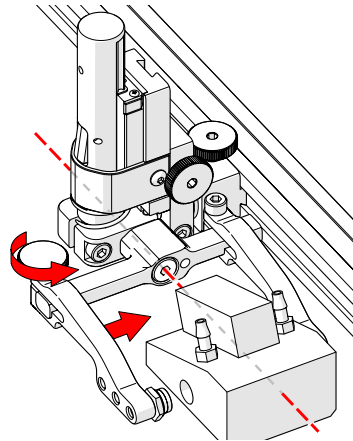

Fig. 167 - Adjust outer arm
5. Loosen the probe holder arm adjustment knob (Fig. 167) and slide the probe holder arm along the yoke pinching the wedge in place.